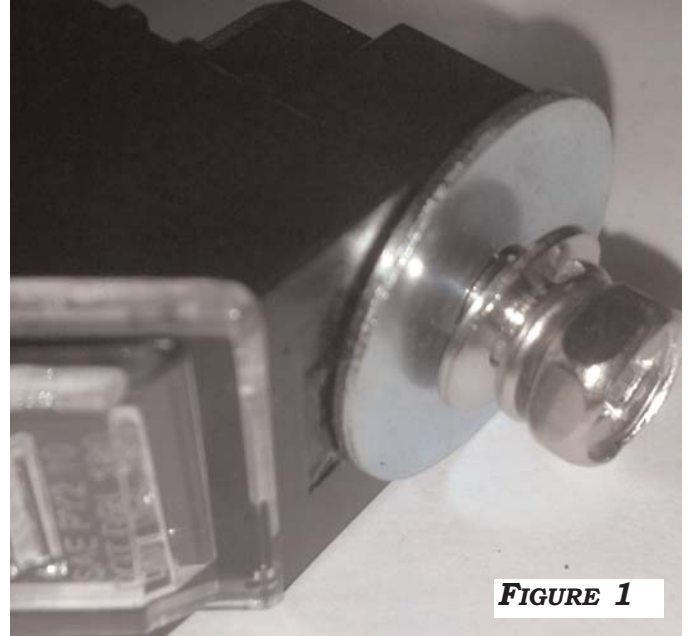

FIGURE 1
1. PRIOR TO INSERT THE UNIVERSAL DRL LED STRIP INTO THE OPENING OF A BEZEL, ENGAGE THE M6X14MM NUT WITH THE M6 WASHER AND NUT PRIOR TO FASTENING THE LIGHT STRIP. THE MOUNTING TAB SHOULD FALL IN BETWEEN M6X25 WASHER, AND THE BOLT-LOCK WASHER ASSEMBLY. REFER TO **FIGURE 1**.
2. ON THE ANGLED PORTRUDING TAB SLIDE A BLACK BEZEL CLIP ON THE TAB WITH THE RAISED EDGE FACING THE LED STRIP. ON THE REMAINING TAB, ENGAGE THE M6 X 14MM BOLT WITH THE BEZEL CLIP IN BETWEEN. REFER TO **FIGURE 1**.
3. STARTING WITH THE ALREADY ASSEMBLED SIDE, SLIDE THE BEZEL CLIP ONTO THE OPEN TAB AND USING AN OPEN-END 10MM WRENCH TIGHTEN THE BOLT. INSERT AND TIGHTEN THE BOLT ON THE REMAINING SIDE. SEE **FIGURES 1 & 2**.